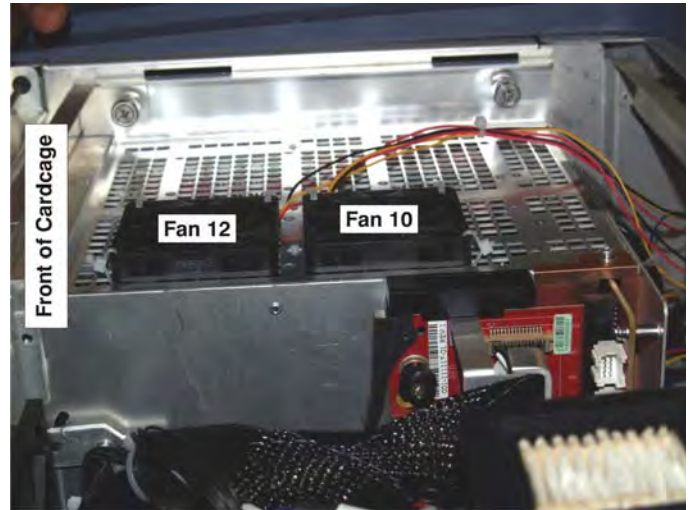

Figure 5-19 Cardcage Intake Fans
3. Disconnect the two fan harnesses from the EVB board. (**Figure 5-19**)